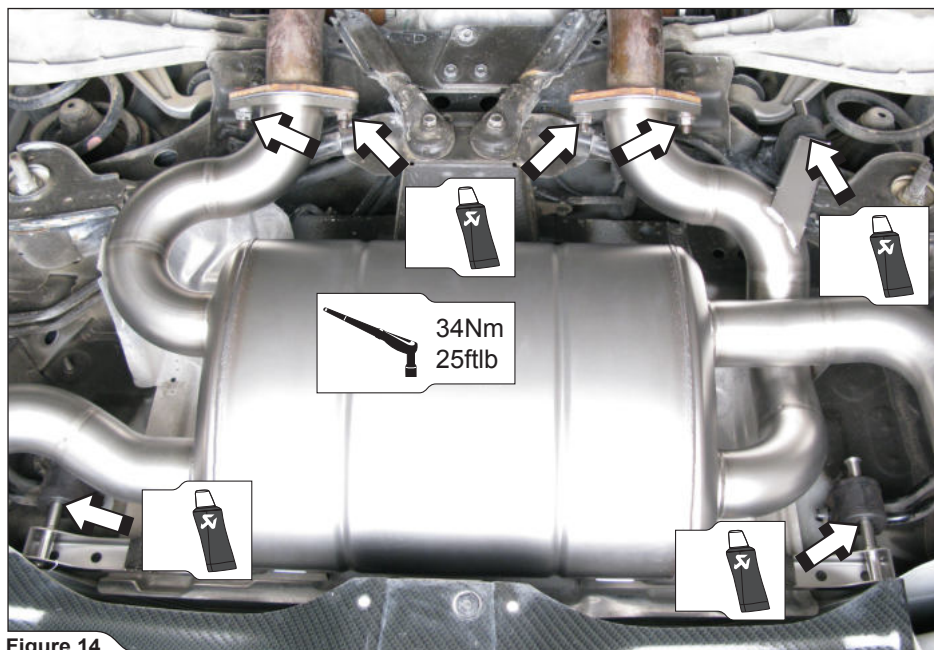

Figure 14
8. **For Slip-On only:** hang the muffler on stock rubber brackets, use Akrapovič exhaust gaskets in stock front pipes - Akrapovič muffler inlet pipes joints (**Figure 14**).